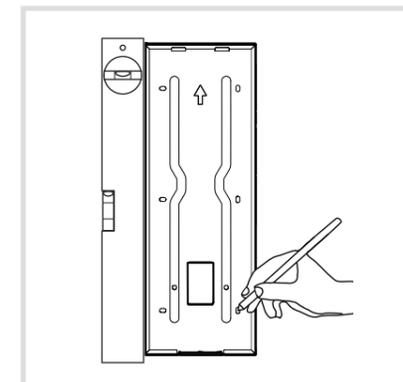

Fig. 22: Drawing on the surface-mounted installation housing
- Hold the surface-mounted installation housing in the correct position at the mounting location with the arrow ↑ pointing upwards, align it with a spirit level and draw the rear-side fastening holes onto the wall (Figure 22).